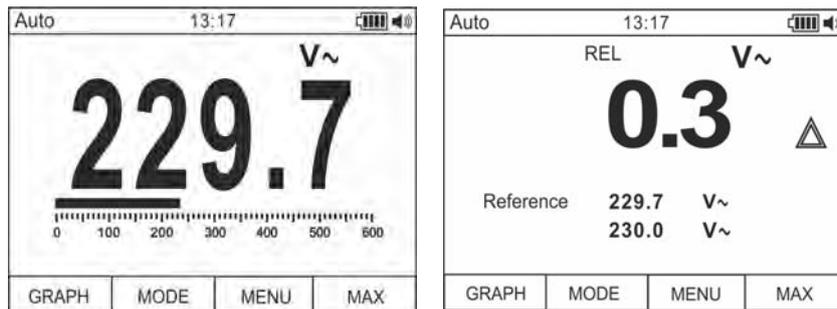

Fig. 5: Relative measurement
1. Press and hold the **HOLD/REL** key to enter relative measurement (see Fig. 5 – right side). The message “REL” and symbol “ $\Delta$ ” appear on the display.